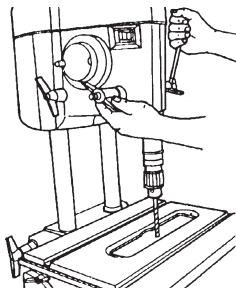

Figure 9
8. With the Drill Bit above the Table opening, use the Quill Feed to extend the Drill Bit 1/2" into the Table opening, as in Figure 9.